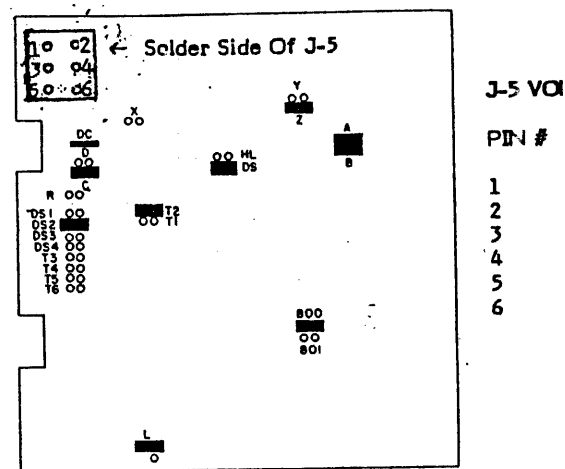

FIG. 3-24 J-5 PLUG ON DRIVE BOARD
2. Secure power supply with (4) nuts to bracket.
3. Check J-5 pins on disk drive board to voltages (Fig. 3-24).